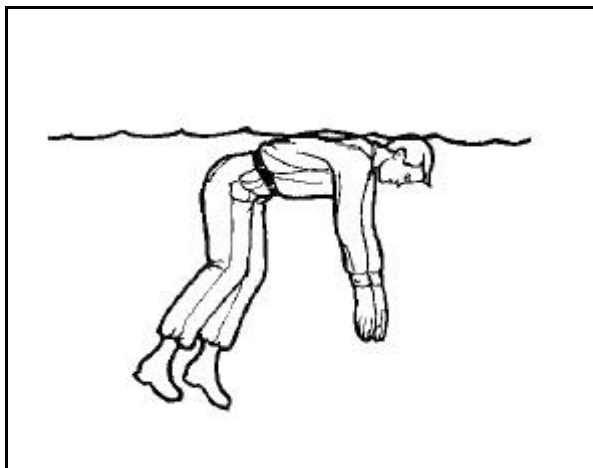

Figure 10-4. Resting Position
- **Step 1--Resting Position.** The swimmer takes a deep breath and then sinks below the surface. The face is kept down with the back of the head even with the water surface (Figure 10-4). In this position, he will sink no deeper.